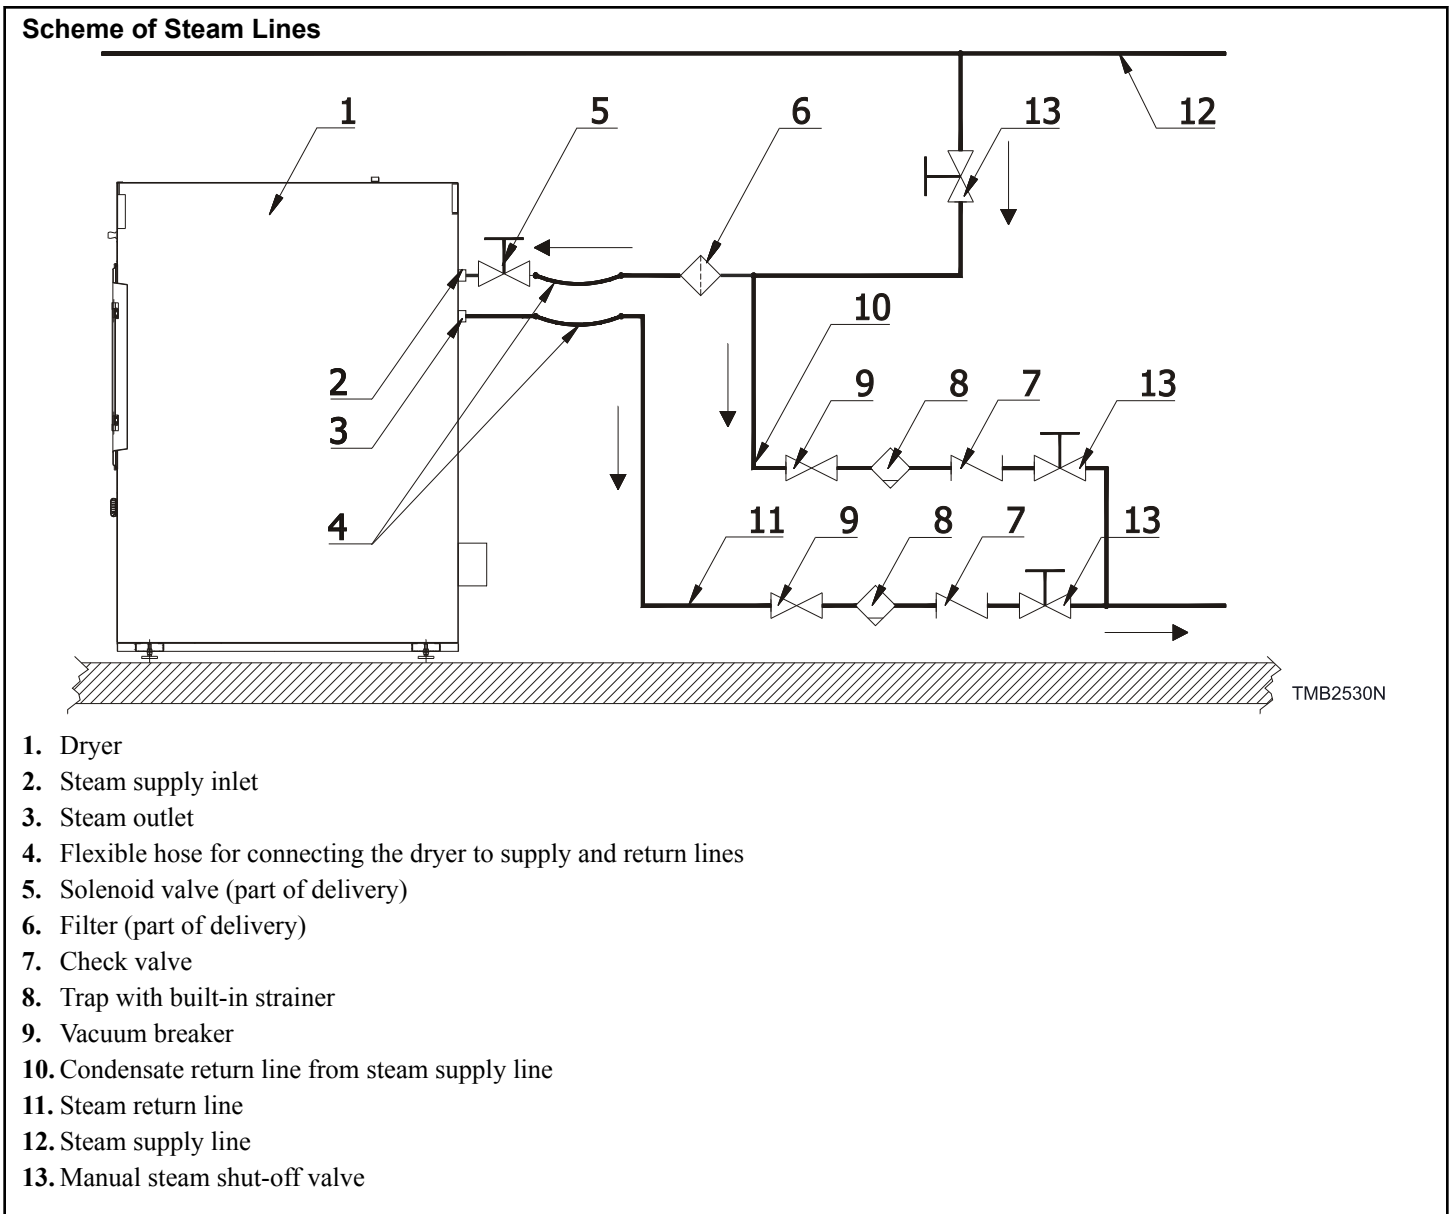

Figure 35
Only the person with relevant authorization can carry out the installation of the steam supply. For the scheme of the steam supply and condensate return refer to *Figure 35*.
1. Connect the steam installation according to the scheme to pertinent connection points on the rear side of the machine. Refer to *Figure 35*.